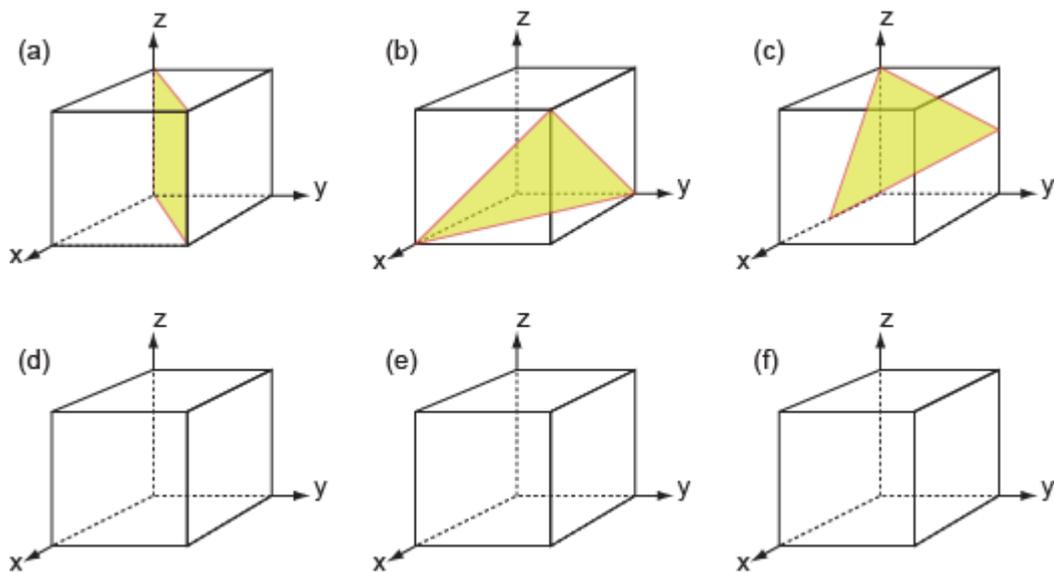

Figure C24. Identify the planes shown in the upper three figures. Draw those required in the question in the lower three.
**E17.** What are the Miller Indices of the planes shown in the six sketches of Figure C24 (a), (b) and (c)? (Remember that, to get the indices, the plane must not pass through the origin, and remember, too, to get rid of fractions or common factors).
**E19.** When iron is cold it cleaves (fractures in a brittle way) on the (100) planes. What will be the angle between cleavage facets?